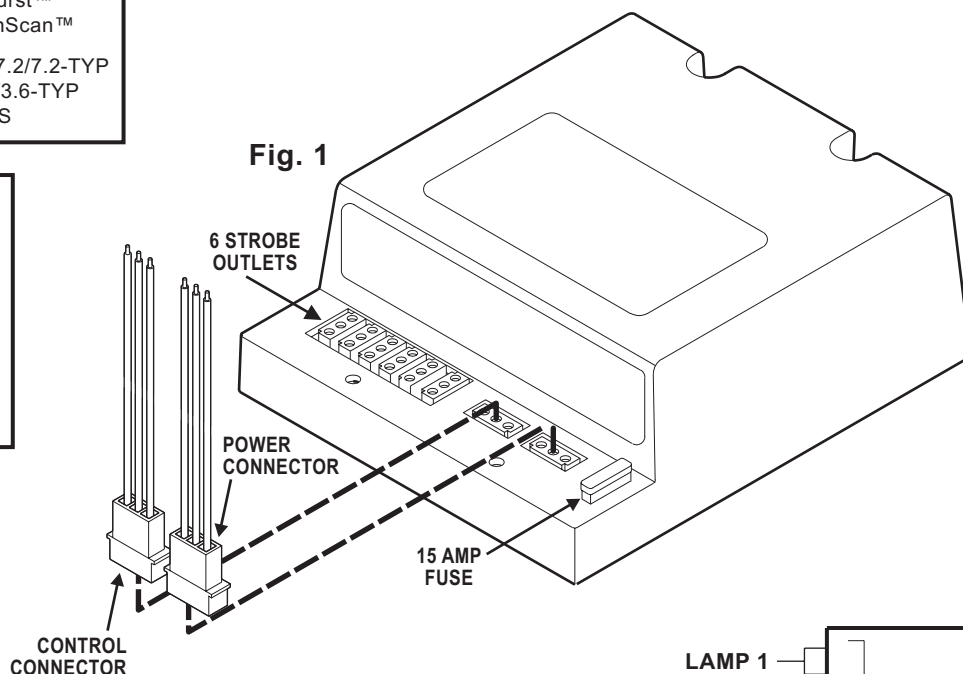

Fig. 2
4. Refer to Fig. 2 for wiring information for the Control Connector and for the Pattern Selection Connector.
5. As indicated in Fig. 2, there is a provision in the Power Connector for a wire (VIOLET) to activate Hi/Low Power strobe operation. If this feature is desired, locate the VIOLET wire included with your power supply and, with the Power Connector disconnected from the power supply, insert the pinned end of the VIOLET wire into position 3 of the Power Connector. Refer to Fig. 2 for wiring information.